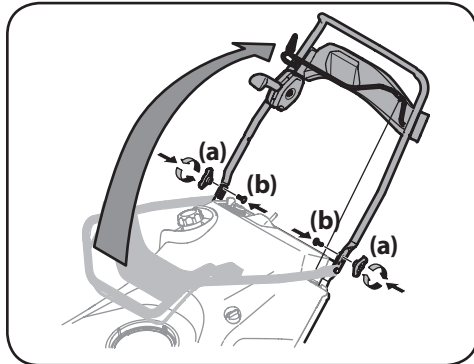
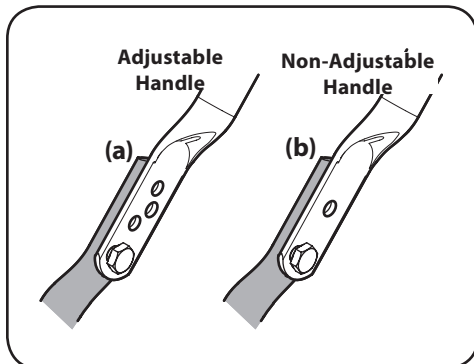

Figure 2-3
Figure 2-4
2. Pivot the upper handle into the operating position. Be sure not to pinch any of the cables in the process. See Figure 2-3.
3. See Figure 2-4. On models with an adjustable handle (a), proceed with Step 4. On models without adjustable handle (b), tighten the hardware removed in Step 1 to secure the handle in place. See Figure 2-3. For models without an adjustable handle (b), continue to Installing the Chute.